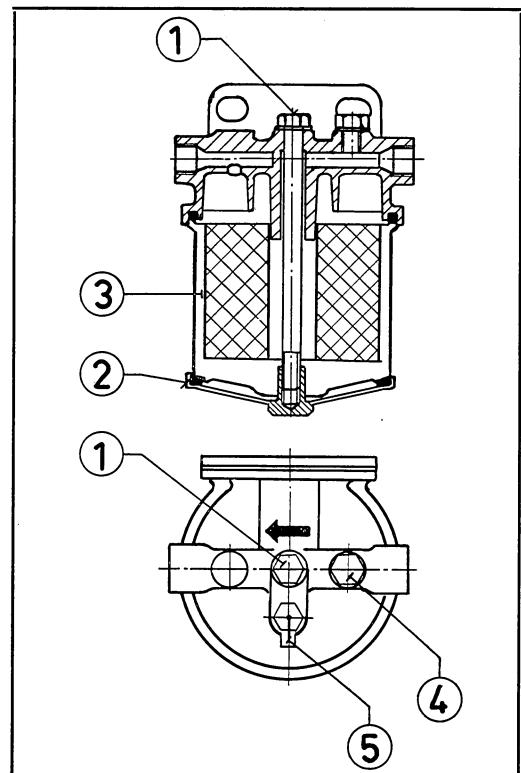

Fig. 13 Fuel filter
The fuel filter insert is not to be cleaned, the only servicing being replacement. This is done by releasing the centre screw 1 (Fig. 13), removing the cover base 2 and replacing the insert 3. The nipple bolt (5) connects the return fuel line to the tank and it also functions as a bleed screw. The leak-off oil line from the injectors is fixed to the filter by means of the nipple bolt (4). Normally, the filter insert should be replaced after every 300 hours of operation.